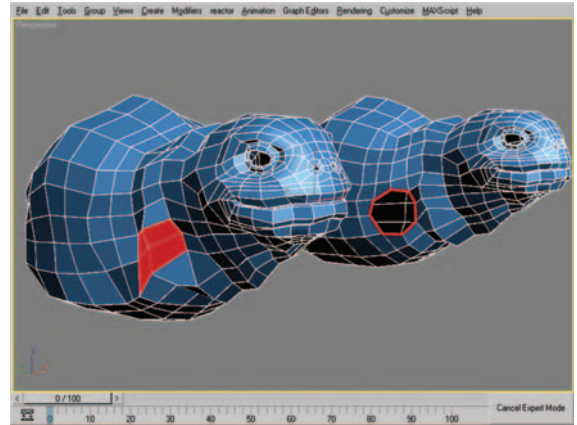

Figure 9.42 Polygon selection to delete and border after moving verts to a circle configuration.
3. Select the four polygons shown in Figure 9.42 (left) and delete them. What you are left with is a square border composed of eight vertices. Move the vertices (one by one) with Edge Constraints to make the opening a circular border (Figure 9.42, right).